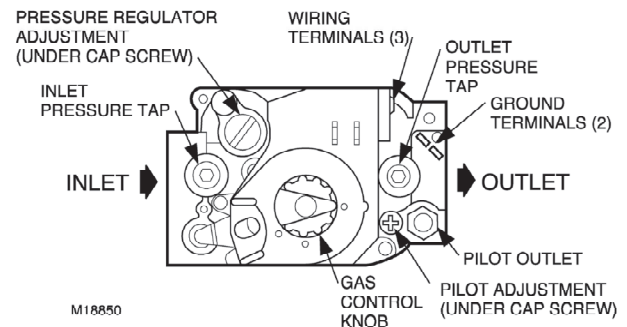

Figure 3. Top view of gas control
2. Remove the regulator cap screw and pressure regulator adjusting screw. See Figure 3.